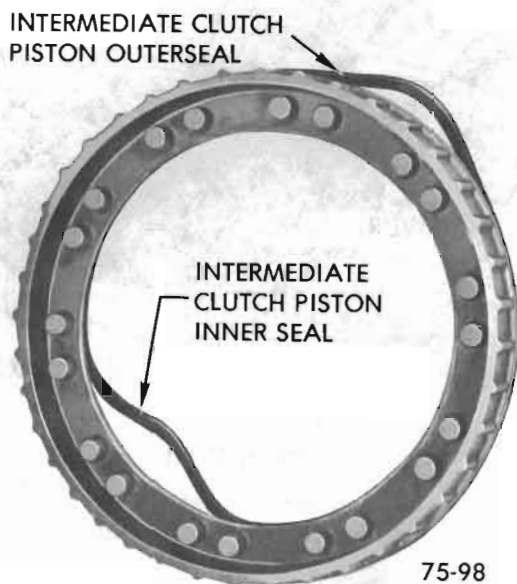

Figure 75-134
3. Remove intermediate clutch piston inner and outer seals. See Figure 75-134.
4. Install intermediate clutch piston inner seal and outer seal. See Figure 75-134.